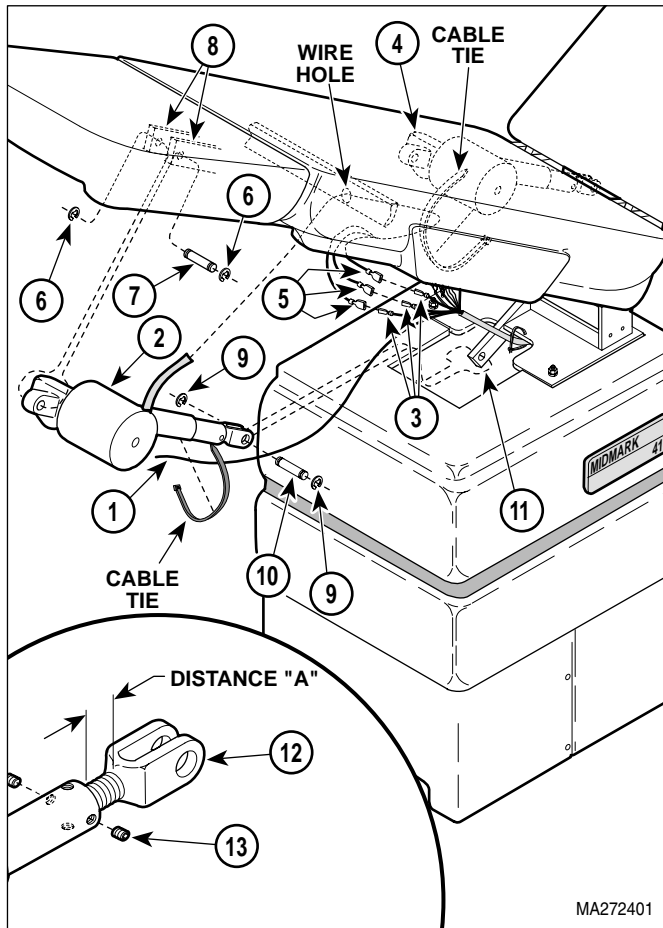

Figure 4-17. Tilt Actuator Assembly Removal / Installation
- (2) Unplug power cord from wall outlet.
- (3) Cut cable tie securing limit switch wire harness (1, Figure 4-17) to tilt actuator assembly (2).
- (4) Cut cable tie securing three wires (3) to motor of back actuator assembly (4).
- (5) Tag and disconnect three tilt actuator wires (5) from three wires (3).